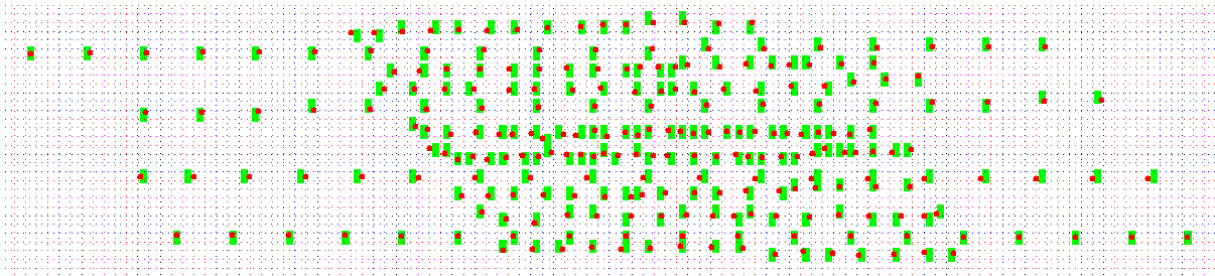

Figure 12: Initial output from IPPROC. Red dots = real electrodes, green rectangles = cell that electrode belongs to in the mesh matrix. Cell size is 40 x 40m
rectangle. The actual electrode location is indicated by a red dot while the cell it belongs to is shown by a green rectangle. Initially these overlap. Think of this mesh as a matrix storing the indices of the electrodes for the trapezoidal mesh i.e. not all cells need to be filled but all rows containing data must have the same number of data points. If your survey lines run north-south exchange rows for columns in the above and following discussion. Figure 12 shows the initial output from IPPROC.
17. The first step is to re-assign electrodes to nodes on common lines. Note we are not moving electrodes here. All we are doing is generating a matrix with an equal number of non-null points on any non-null line. To do this use the Move button on the toolbar, click on the green node you want to re-assign then the node you want it assigned to. The southern most survey line in Figure 12 consists of 16 electrodes which are currently assigned to two rows in the mesh matrix. To complete this line the nine northern electrode nodes will have to be moved south, or the seven southern electrode nodes will have to be moved north. After this, dummy electrodes will have to be added to both ends of the line since the real electrodes do not extend as far west or east as some of the lines to the north (this is covered in point 18). After re-assigning an electrode position the display will be re-drawn and the new node coloured after each paired mouse click. To assist in tight electrode patterns the